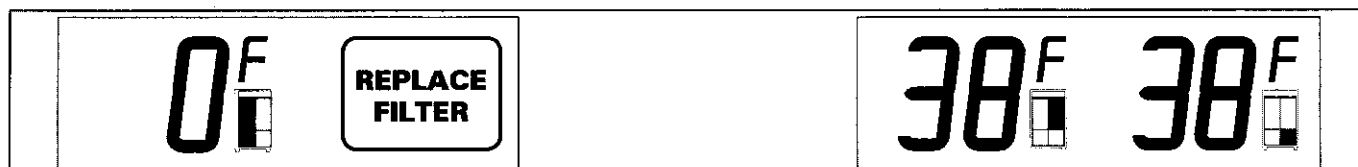

Figure 3-31. REPLACE FILTER Icon Appears after approximately one (1) Year of Filter Use
The microprocessor observes the switch behind the water filter. When the filter is installed, the switch behind the filter is depressed/closed, telling the microprocessor to start the filter timer countdown (see Figure 30). After approximately one (1) year of use, the REPLACE FILTER icon on the left User Display will appear (See Figure 3-31). Removing the filter will open the switch and replacing the filter with a new one will re-close the switch. When this is done, the REPLACE FILTER icon will disappear and the countdown will start over.